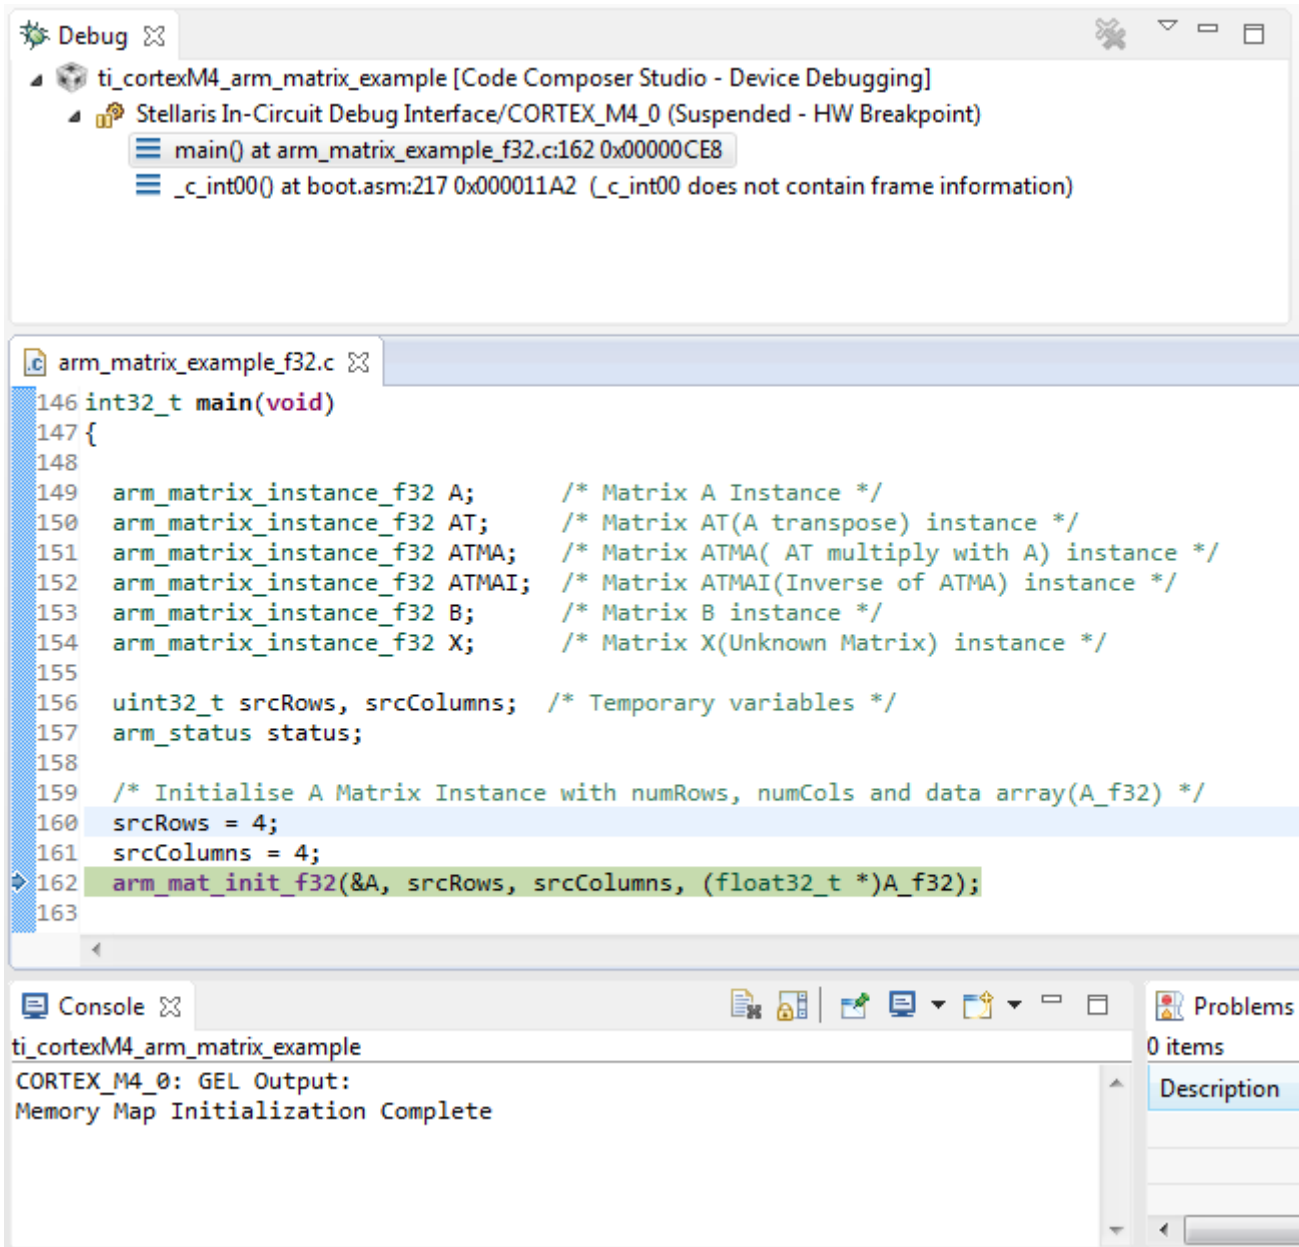

Figure 26. The arm_matrix_example Project, After it has Been Loaded Into Flash and the Startup Code has run to the main() Function
- It takes a moment for Code Composer Studio to connect to the MCU and download the code. Once the connection has been established and the flash programmed with the compiled project code, the MCU will run until it reaches the project's `main()` function (see Figure 26). Press the *Resume* button (or F8) to cause the program to start executing.